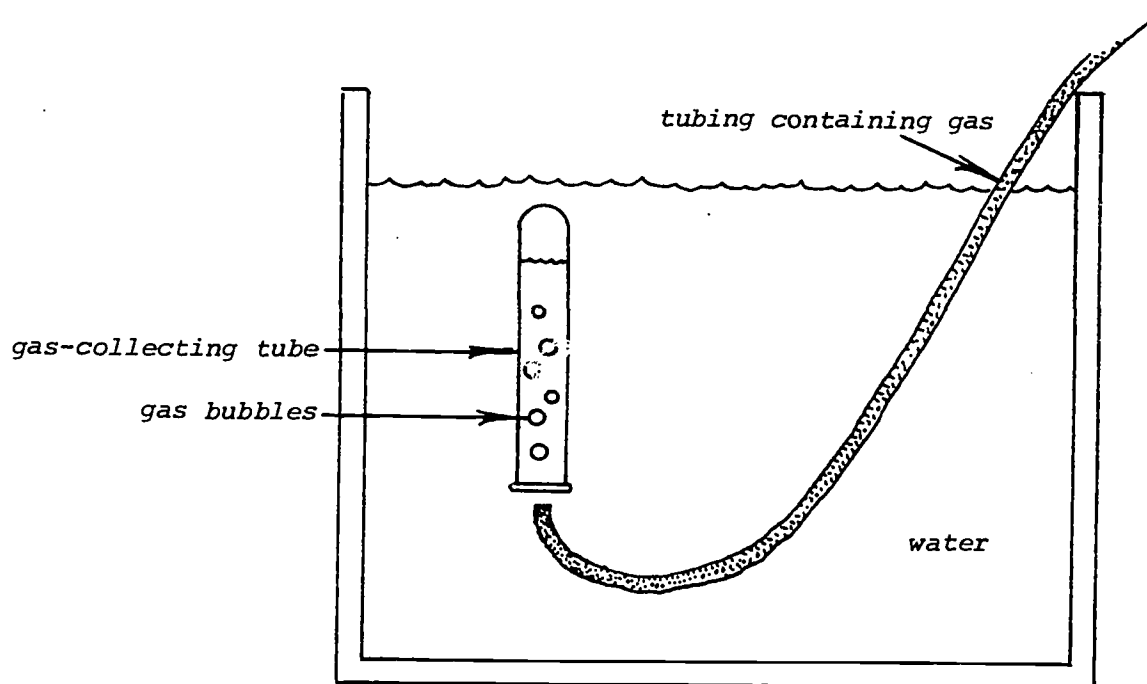

FIGURE 2: *Filling a tube with gas.*
6. As the test tube heats up, gas begins to bubble into the water. The first few bubbles are mostly air, and do not need to be collected. Now watch the chemicals inside the test tube. As the temperature rises, the potassium chlorate melts. When the chemicals start bubbling vigorously, begin collecting gas in the submerged test tubes as shown in Figure 2.